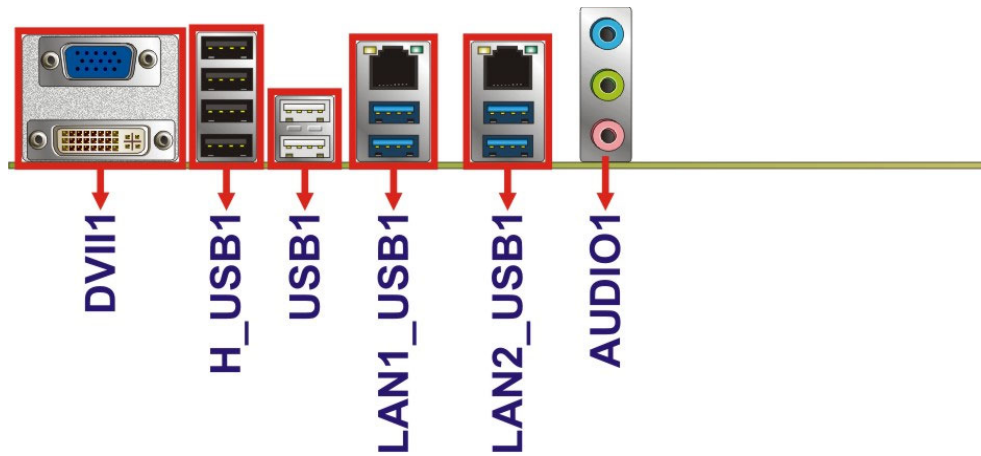

Figure 3-34: External Peripheral Interface Connector
CN Location:	See Figure 3-34
CN Location: See **Figure 3-34**
- CN Location:** See **Figure 3-34**